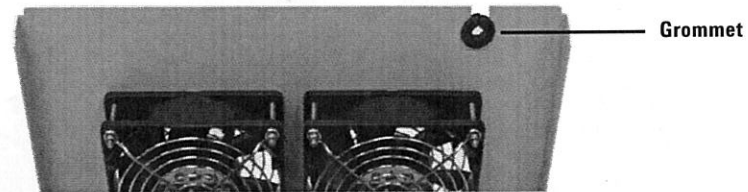

Figure 6 Grommet location on Quiet Cover DS
- Remove the grommet (Figure 6) from the back upper edge of the Quiet Cover DS frame and place the grommet around the pump power cord.